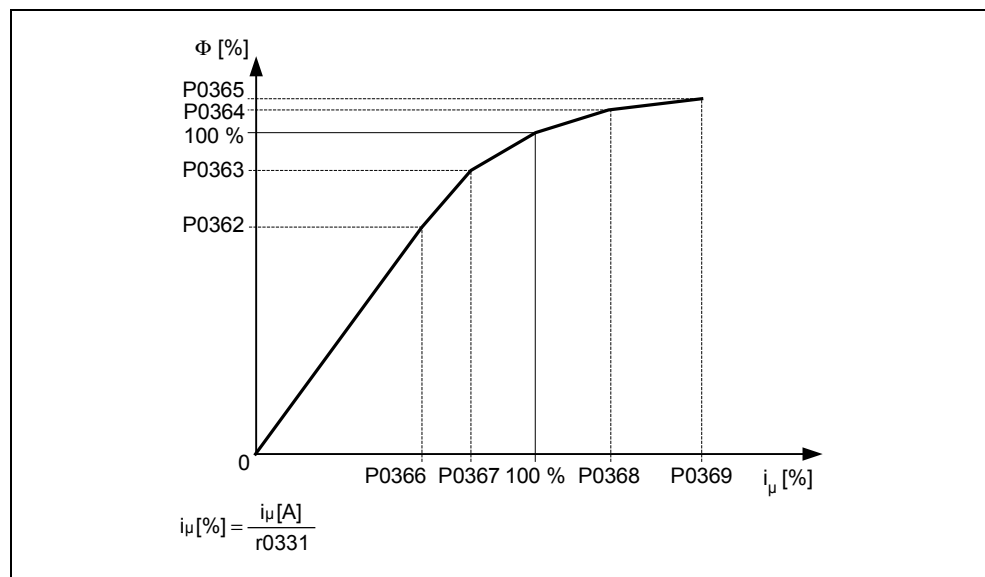

Fig. 3-24 Magnetizing characteristic
- Magnetizing characteristic (refer to Fig. 3-24) → P1910 = 3